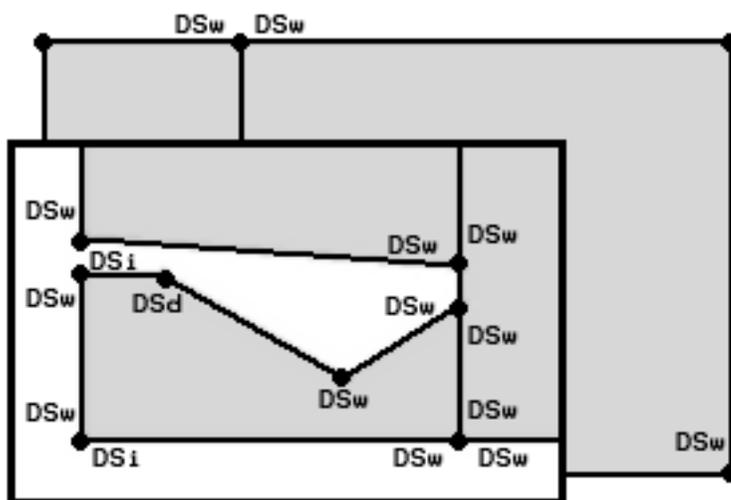

Figure 28.3 Locations to Apply Variables
You may now go to the CONNECTOR COMMANDS menu and use these variables to set the clustering at the break points according to Figure 28.3. You will use the **Set Δs Vals** command. This command conveniently allows you to select, either in the Browser or graphically, multiple break points at once and set them to the same spacing constraint value. Since you have three spacing variables to apply, you will only need to select and specify three groups of break points.
2. Select the two break points corresponding to DSi in Figure 28.3.
5. Use Figure 28.3 to apply spacing constraints all around the rest of the grid.